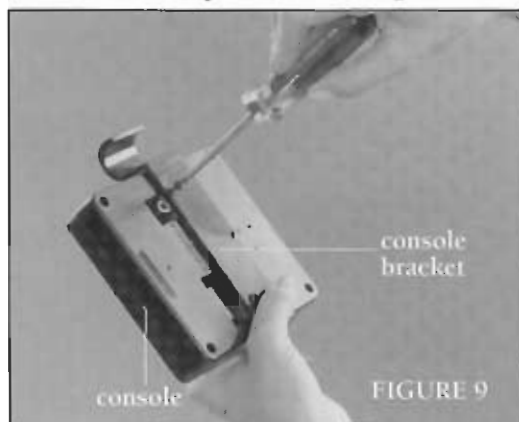

FIGURE 9
3. Tighten the two small black screws through the bracket and into the holes in the console with the Phillips screwdriver (Figure 9).